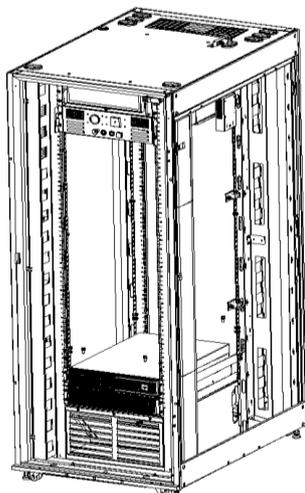

Figure 3-33 Cabling box of 800mm wide standard unit – Installation area of the front door of the cabinet
3. This cabling box can also be installed in the front door of the 800mm wide standard unit, as shown in Figure 3-33.